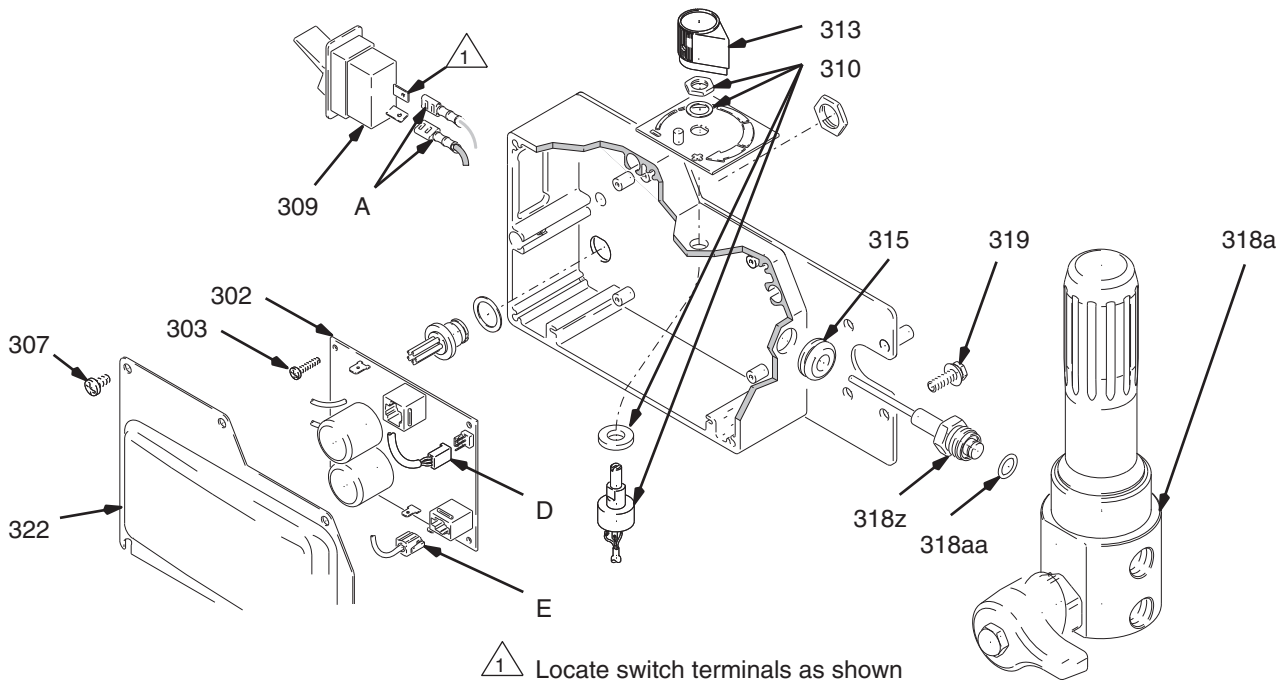

FIG. 22
NOTE: All Steps refer to FIG. 22.
1. Remove five screws (307) and cover (322) (FIG. 22).